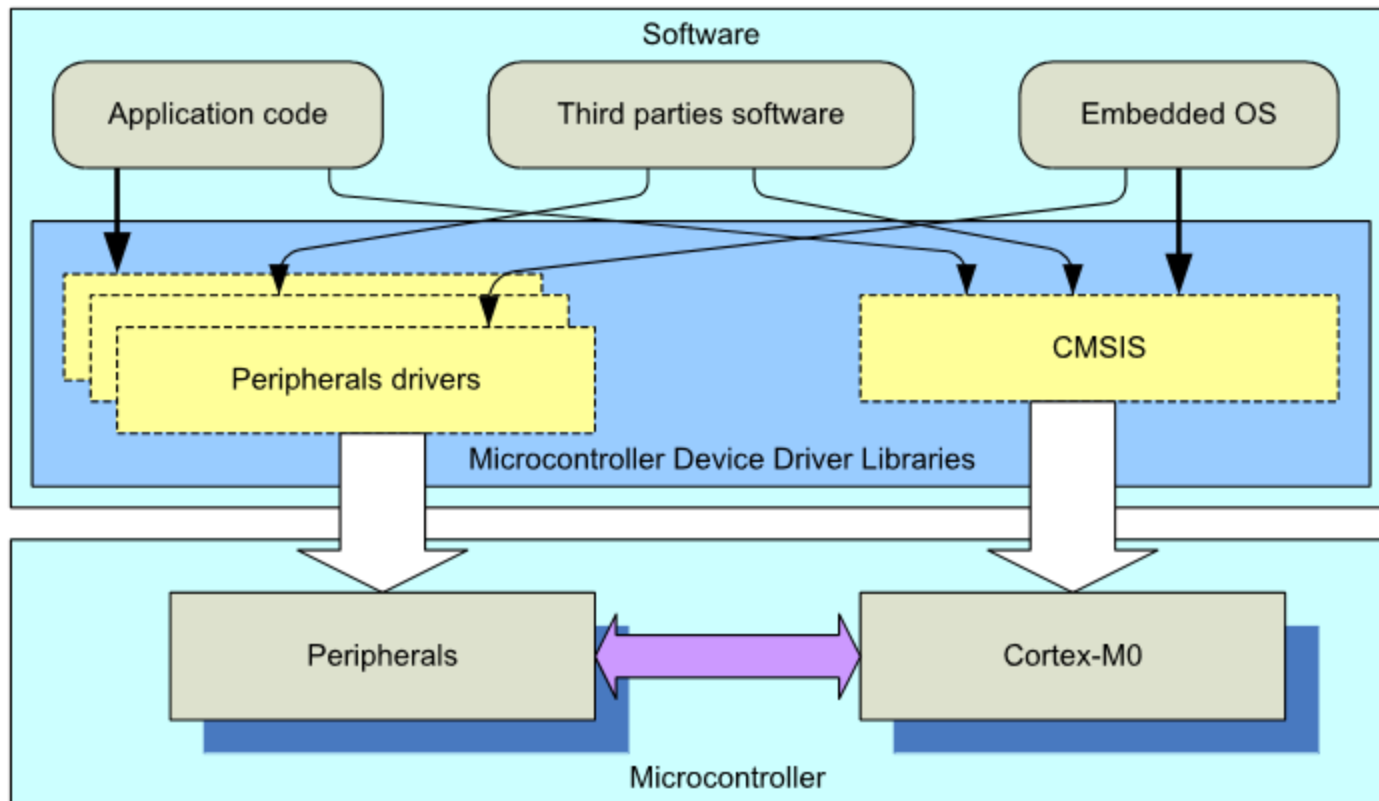

Figure 4.16:
- To allow a high level of compatibility between these software products and improve software portability, ARM worked with various microcontroller vendors and software solution providers to develop the CMSIS, a common software framework covering most Cortex-M processors and Cortex-M microcontroller products (Figure 4.16).